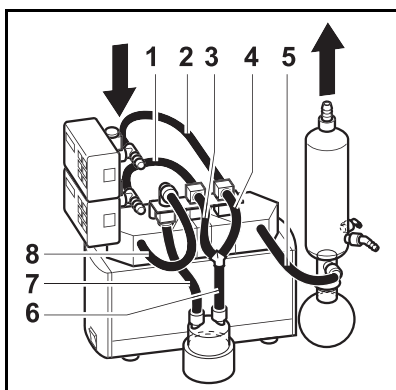

Fig. 19: Tubing system SCC
1. Slide the removed vacuum controller (2) into the slot on the new support (16) and fix it in place with the clamp connection.
2. Slide the support's attachment part into the baseplate's (17) lateral upward-pointing slotted bar.
5. Slide two additional vacuum valves (6) onto the lateral support mounting slot and fix the device with help of the clamping assembly.
6. Lay hoses for system (see fig. 19).